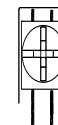

Figure 2 Wire Connection
- Break all in-out wire runs on supervised circuits to assure integrity of circuit supervision as shown in Figure 2. The polarity shown in the wiring diagrams is for operation of the appliances.